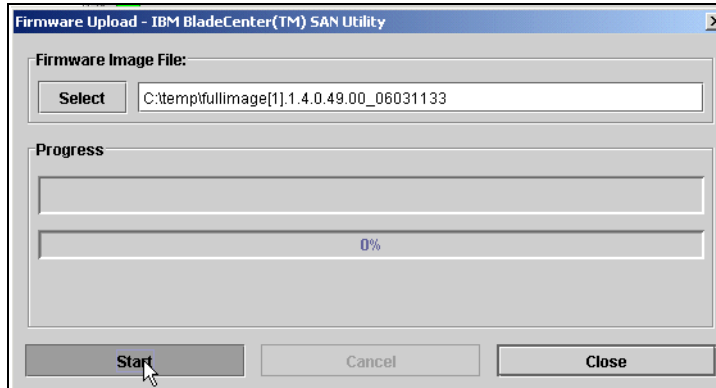

Figure 5-34 Start firmware download menu
5. Click the **Start** button in the firmware upload window to begin the firmware upload process as shown in Figure 5-34.